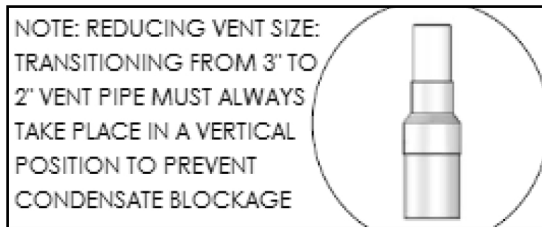

Figure 24 - Transitioning from 3" to 2" Vent Pipe
4. For 2" installations, install the reducing coupling in a vertical section of pipe. At least a 6" length of 3" pipe **MUST BE INSTALLED** before reducing to 2". See Figure 24.